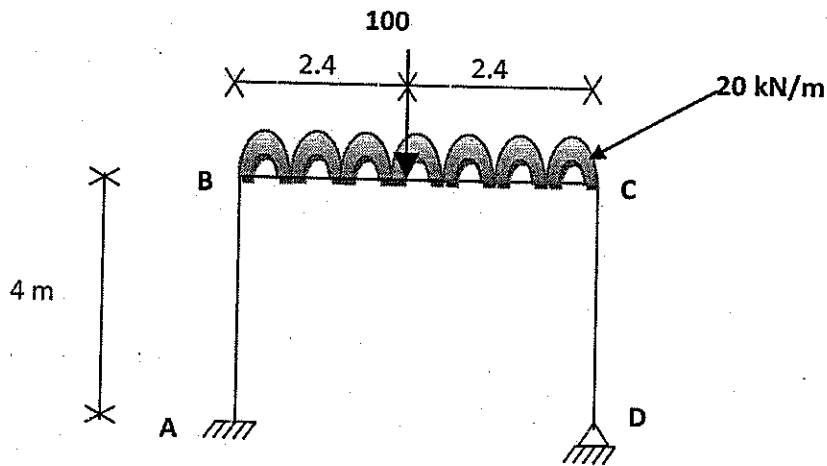

Fig.1: Frame (2D) Problem
1. Analyse the frame by **slope-deflection method** and draw the final bending moment diagram of the frame as shown in Fig.1. The size of beam BC is 250 mm X 400 mm and the side of the square columns AB & DC are 350 mm and 250 mm respectively.  $E = 2.5 \times 10^4$  MPa for all the members.